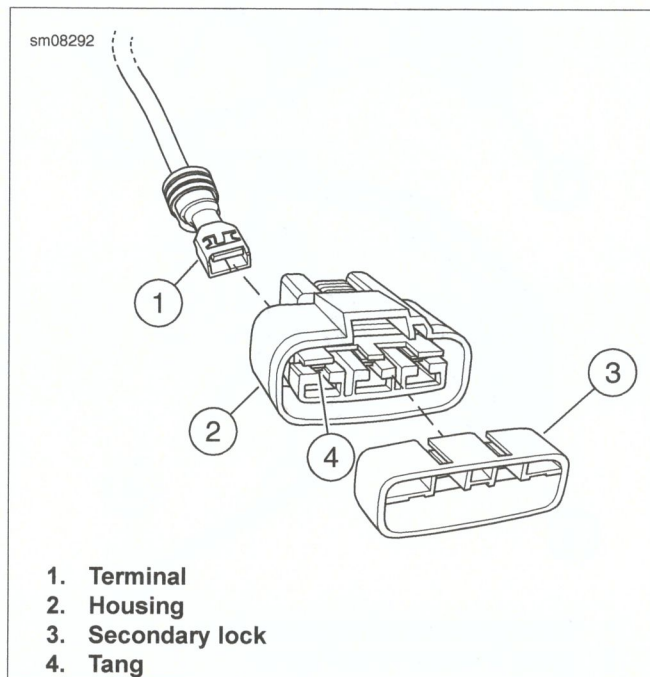

Figure A-11. Furukawa QLW Sealed Connector
2. See Figure A-11. Remove secondary lock (3) from housing (2).
3. Insert the extractor into the cavity next to the terminal. Press the plastic tang (4) away from the terminal (1).